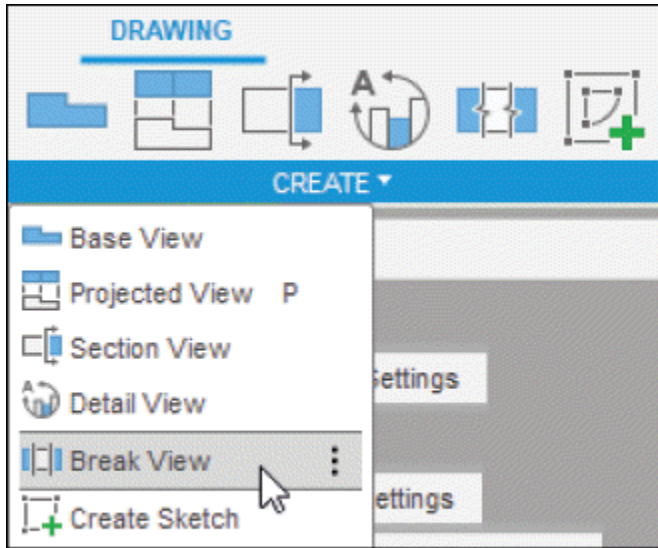
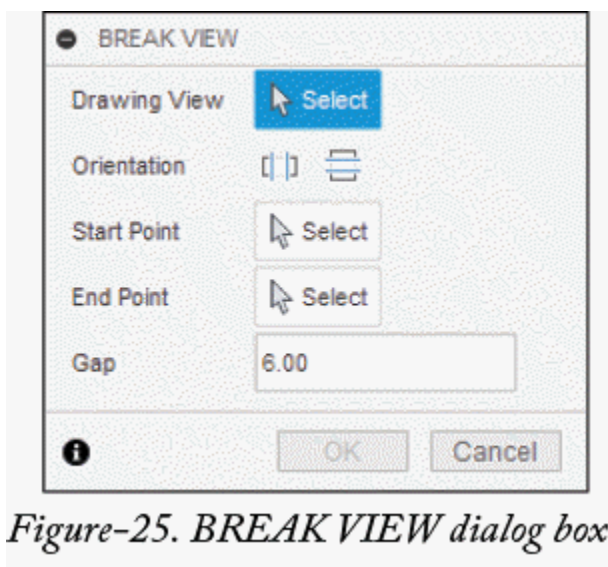

Figure-24. Break View tool
Figure-25. BREAK VIEW dialog box
- Click on the **Break View** tool from **CREATE** panel; refer to Figure-24. The **BREAK VIEW** dialog box will be displayed and you will be asked to select the drawing view to be broken; refer to Figure-25.